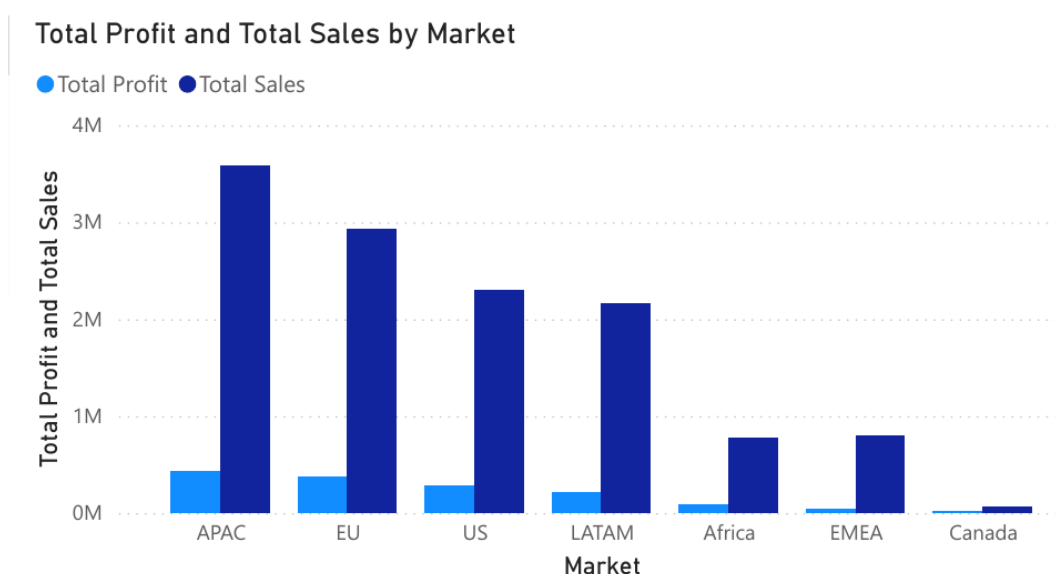

Figure 2: Sales and Profit by Market (clustered bar).
- **Impose pricing discipline in EMEA and LATAM.** Figure 2 shows these markets sell but barely profit; apply the APAC/EU (and Canada) playbook.